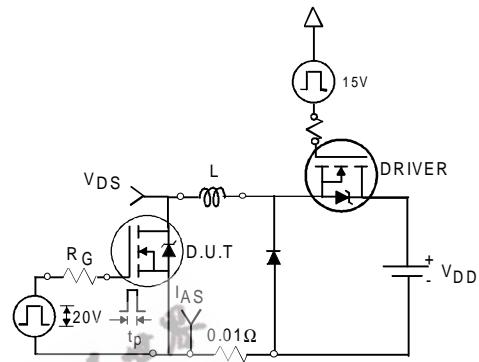

Fig 16c. Unclamped Inductive Test Circuit
- ③ Surface mounted on 1 in square Cu board
- ⑥ Limited by $T_{J\text{max}}$, see Fig.16c, 16d, 19, 20 for typical repetitive avalanche performance.